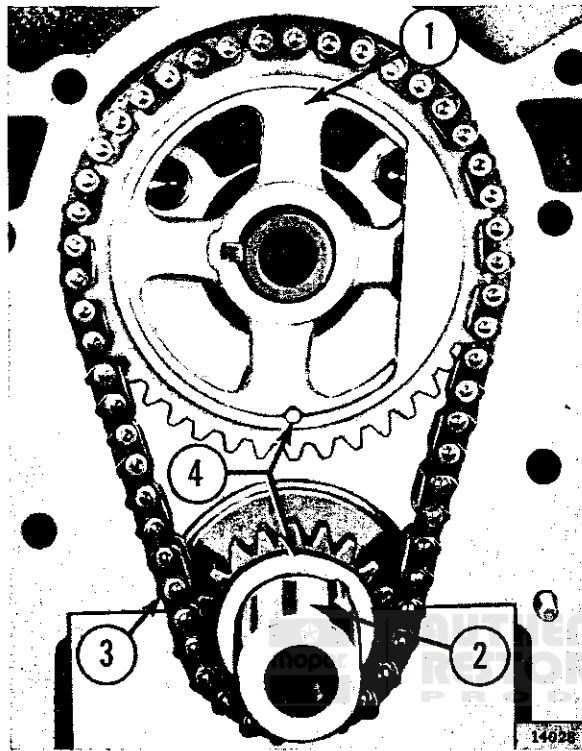

FIG. D1-39—INSTALLATION OF TIMING CHAIN AND SPROCKET
- c. Assemble timing chain and sprockets. Install keys, sprocket, and chain assembly on the camshaft and crankshaft so that index marks of both sprockets are aligned as shown in Fig. D1-39.